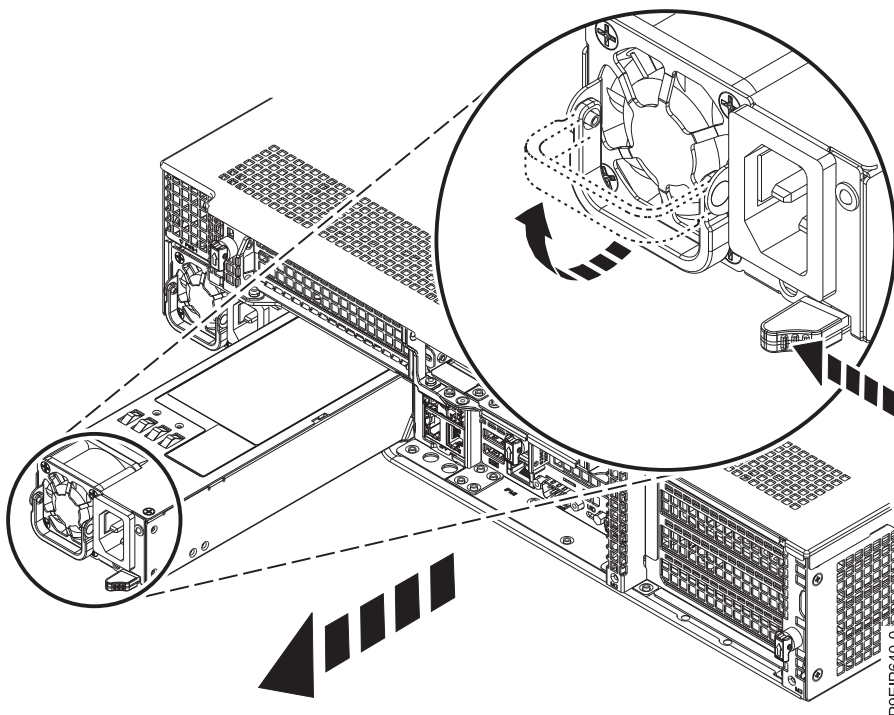

Figure 68. Removing a power supply from the system
- a. To unseat the power supply from its position in the system, push the locking-tab to the left as shown in Figure 68.